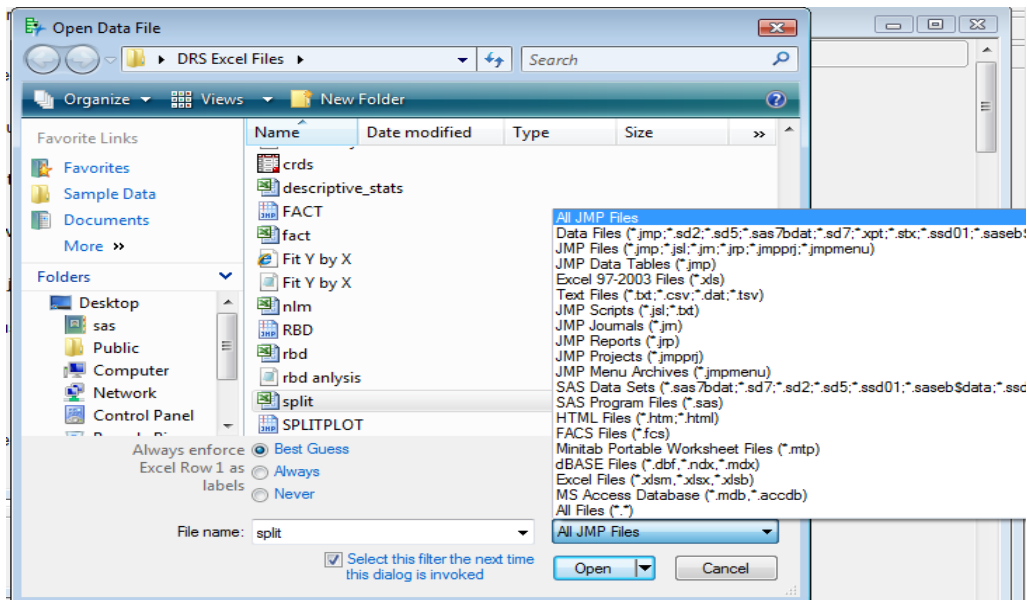

Figure 3.2.1: Opening a Excel file through Open Data File dialog box
- Selecting **File** → **Open** (or clicking the Open Data Table button on the JMP Starter window) presents a file selection window with a list of existing tables. By clicking the drop-down menu just above the Open Tab, displays a list of files with extensions which one can open in JMP. One can open an EXCEL file by selecting *.xls, *.xlsx files. Alternatively, On clicking **All files** select the required Excel file, one gets 3 options for Always enforce Excel Row1 as labels, as "Best Guess", "Always" and "Never". It is preferred to use Best Guess option to open an Excel file (See Figure 3.2.1)